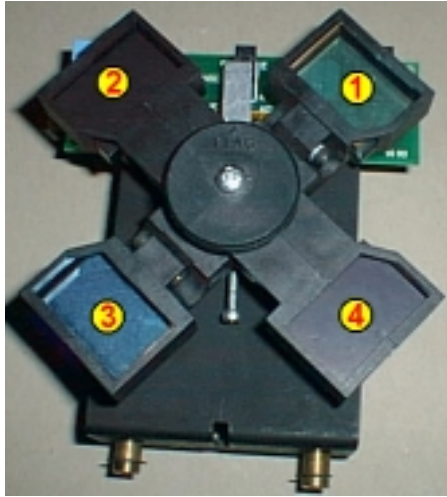

Figure 97 Positions for the excitation wheel
- The positions for the excitation wheel are shown in Figure 97.